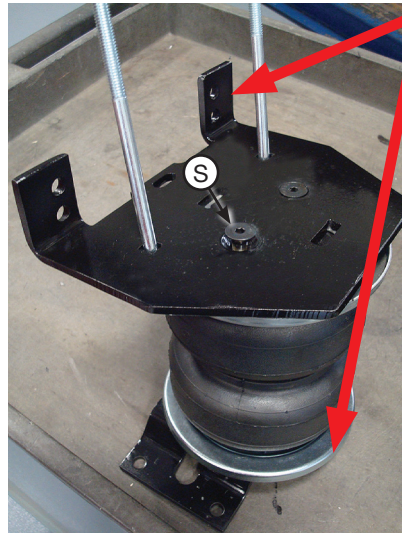

fig. D.10
4. Insert two 3/8"-16 x 10" carriage bolts (K) through the square holes in the lower bracket main plate (B) (Fig. D.10).